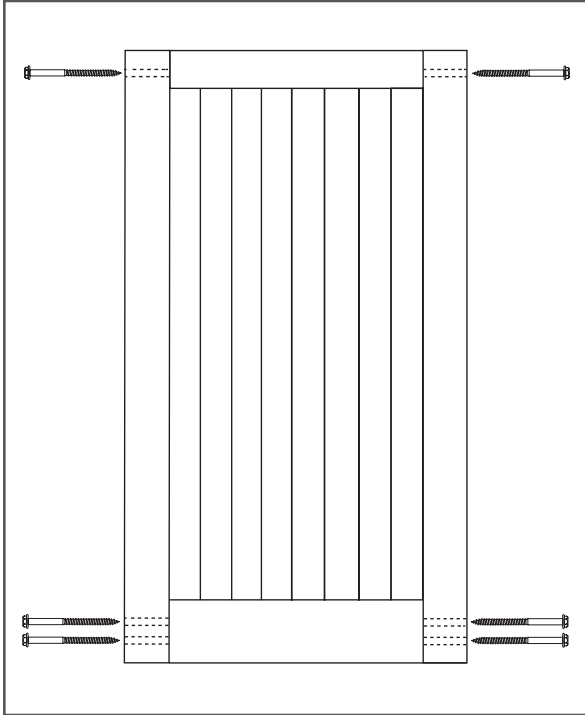

Figure 5
5. Fix the door assembly with six 6" lag screws (D), using a socket wrench with a 7/16" socket (Figure 5).